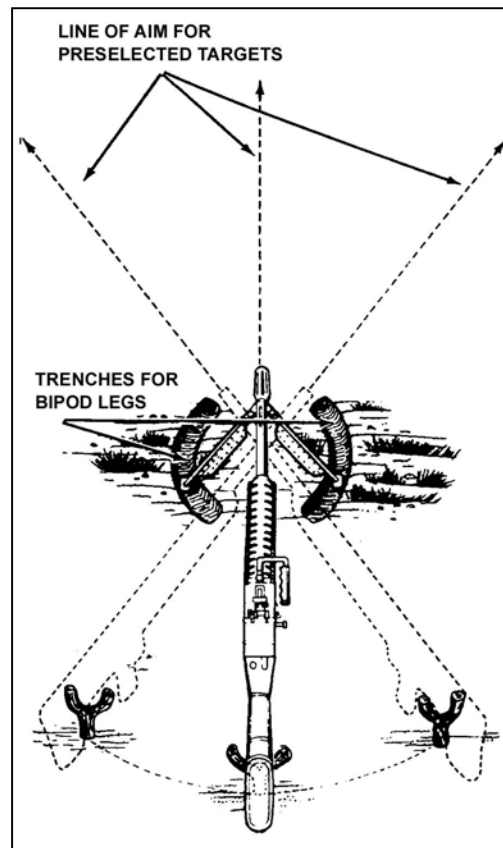

Figure 5-24. Notched-stake or tree-crotch technique.
(2) *Notched-Stake or Tree-Crotch Technique.* The gunner uses the notched-stake or tree-crotch technique (Figure 5-24, page 5-22) with the bipod mount to engage